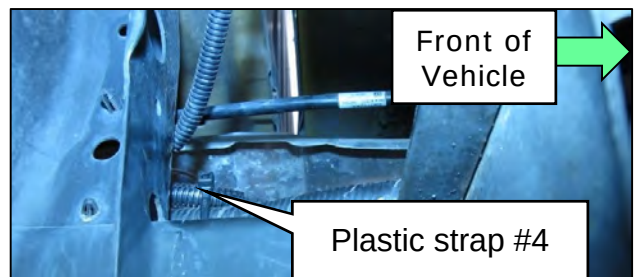

Figure 45
- Figure 45 is from the frame rail RH side (outer) behind the right rear cab mount.